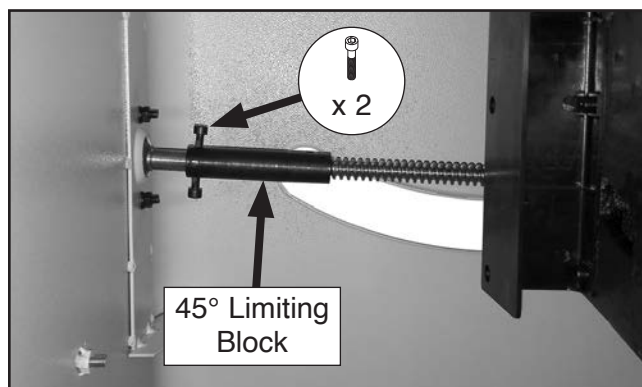

Figure 107. Location of 45° limiting block.
5. Loosen (2) M5-.8 x 10 cap screws in 45° limiting block (see **Figure 107**).